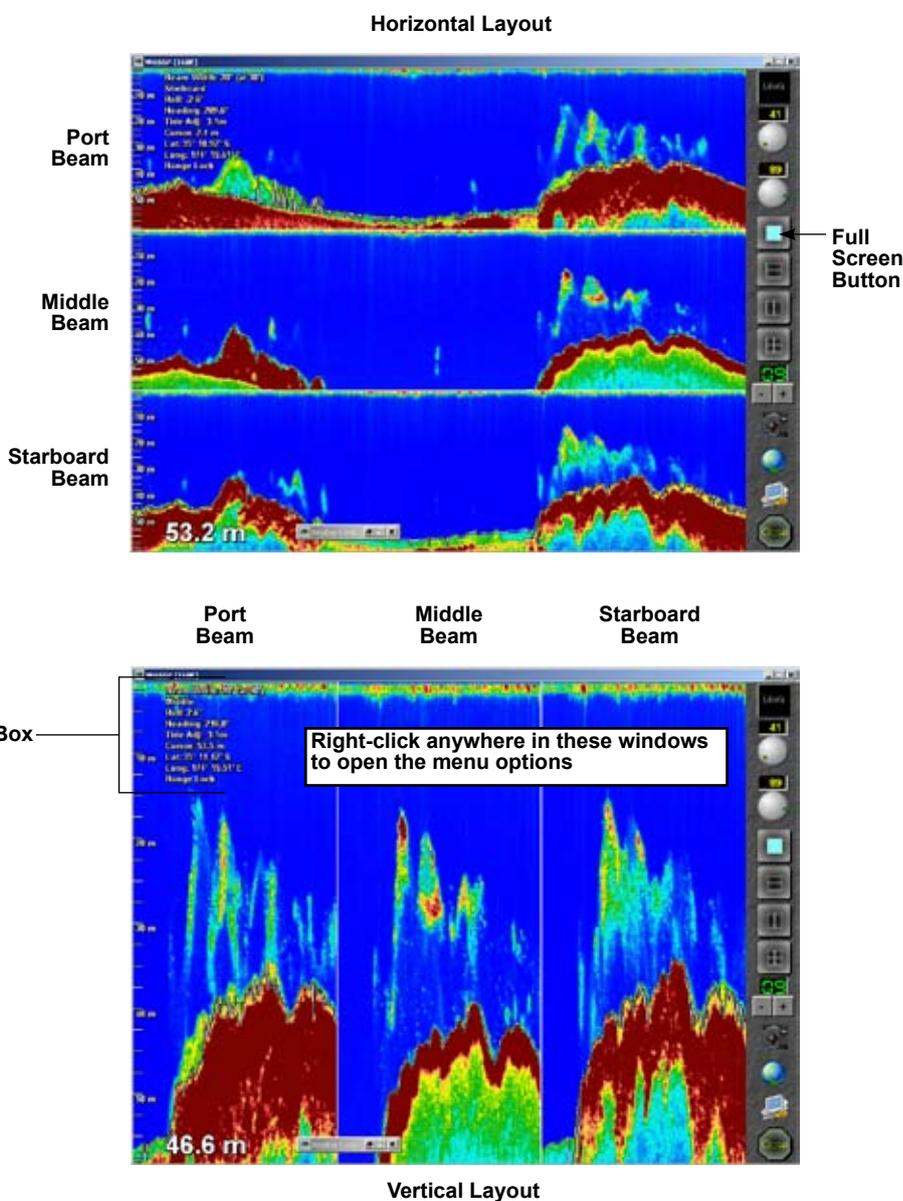

Figure 12 – Single / Triple Beam View
This feature displays information that is similar to the traditional fish-finder display of the water column and seafloor with history along the vessel's track. In the triple beam view it shows the port, middle (below the transducer), and starboard beams See Figure 12.
- **Beam Width** – represents the width of the individual beams and can also be set to 5, 10, 15, 20, 30, or 40° settings. Selecting a 10° beam width with a 20° **triple beam** angle will therefore give a 50° swath for the **triple beam** view. See Figure 12.
Figure 12 shows the differences between beam angle and beam width.